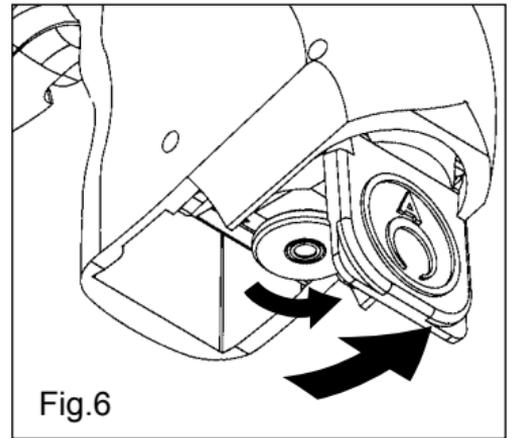

Fig.6
- open the cover downwards (Fig.6);
- turn the ring counter clockwise (Fig.6);